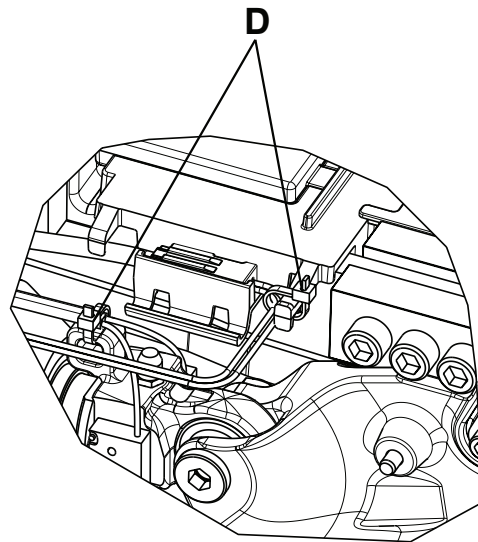

Figure 26 – Cable ties location
5. Using diagonal pliers, cut the cable ties (D) that secure the hydraulic cylinder rod end assembly cable to the plastic cover (Figure 26).